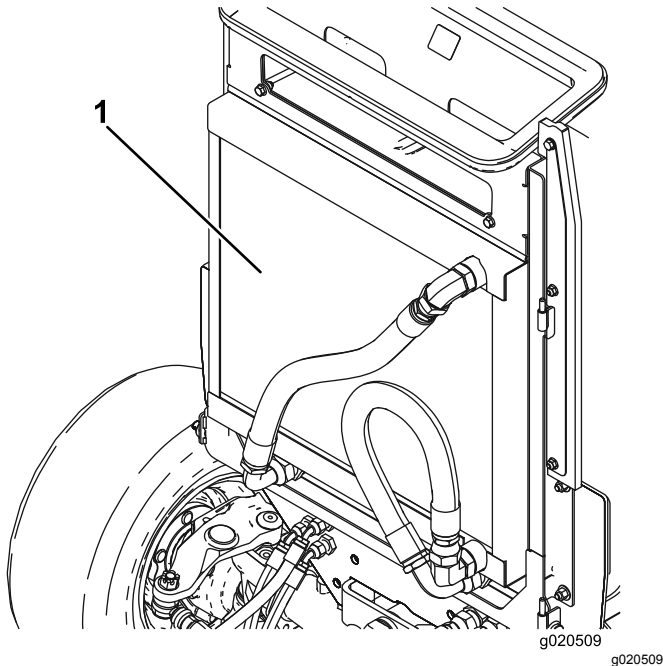

Figure 103
4. Clean both sides of the oil cooler/radiator area (Figure 103) thoroughly with compressed air. Start from the front and blow the debris out toward the back. Then clean from the back side and blow toward the front. Repeat the procedure several times until all chaff and debris is removed.